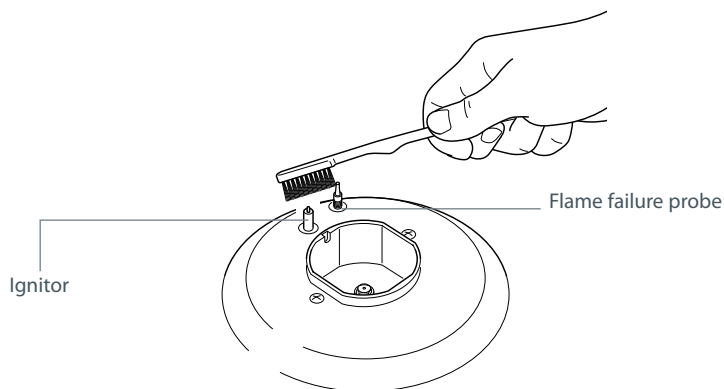

Fig.25 Cleaning the ignitor and probe
- Your cooktop has a flame failure safety device; each burner is equipped with a flame failure probe as well as the ignitor (see Fig. 25).
- the ignitors are sparking. If the ignitors are not sparking, they may be dirty or wet. Clean them with a toothbrush and rubbing alcohol, as shown in Fig. 25.
- Both the ignitor and probe must be very carefully cleaned using a toothbrush and rubbing alcohol (Fig.25).